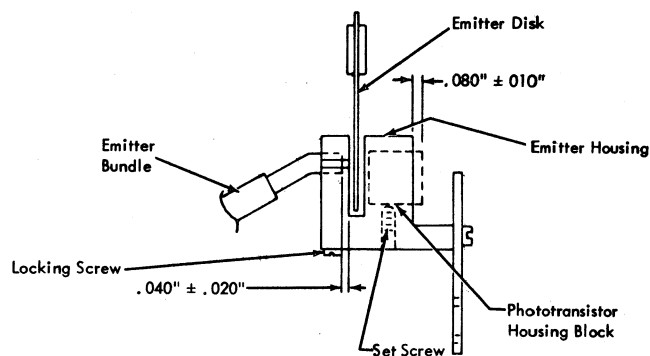

Figure 4-19. Emitter Bundle and Phototransistor Adjustment
1. Position bundle so bundle surface is recessed in emitter housing  $.040'' \pm .020''$  (Figure 4-19). The surface of the bundle must not protrude against the emitter disk.